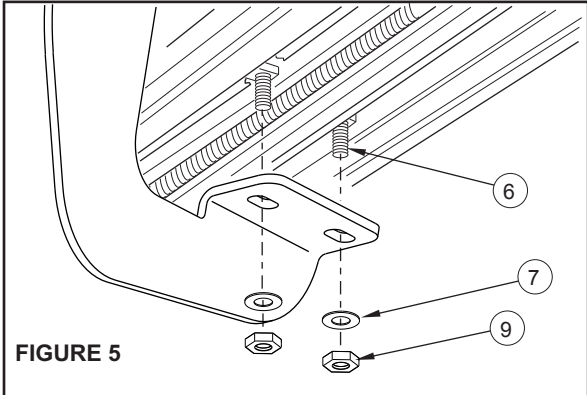

FIGURE 5
- STEP 4.** For Sure-Grip Running Boards, slide closure strip as shown. Set lights (if purchased) in appropriate location. Attach to Sure-Grip Running Board as shown. SEE FIGURE 2. Drill hole through plastic strip and run wires as shown. SEE FIGURE 5.
- STEP 5.** Attach board to brackets as shown. Make sure board and brackets are properly aligned and tighten fasteners. Recommended torque values are 10 FT.LBS. for M8 square head fasteners and 23 FT.LBS. for 8mm fasteners. SEE FIGURE 5.